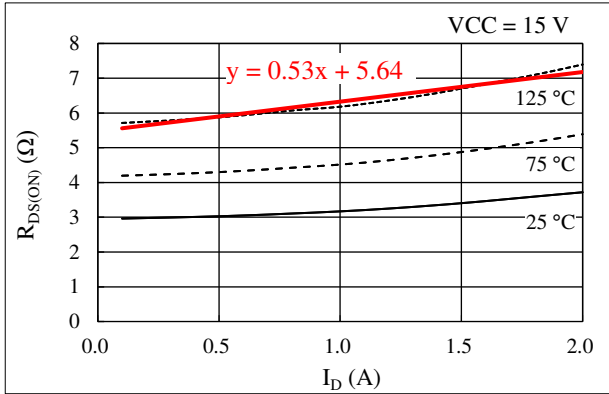

Figure 14-2. Linear Approximate Equation of  $R_{DS(ON)}$  vs.  $I_D$
Steady-state loss in a power MOSFET can be computed by using the RDS(ON) vs. ID curves, listed in Section 15.3.1. As expressed by the curves in Figure 14-2, a linear approximation at a range the ID is actually used is obtained by: RDS(ON) = α × ID + β. The values gained by the above calculation are then applied as parameters in Equation (7), below. Hence, the equation to obtain the power MOSFET steady-state loss, PRON, is: